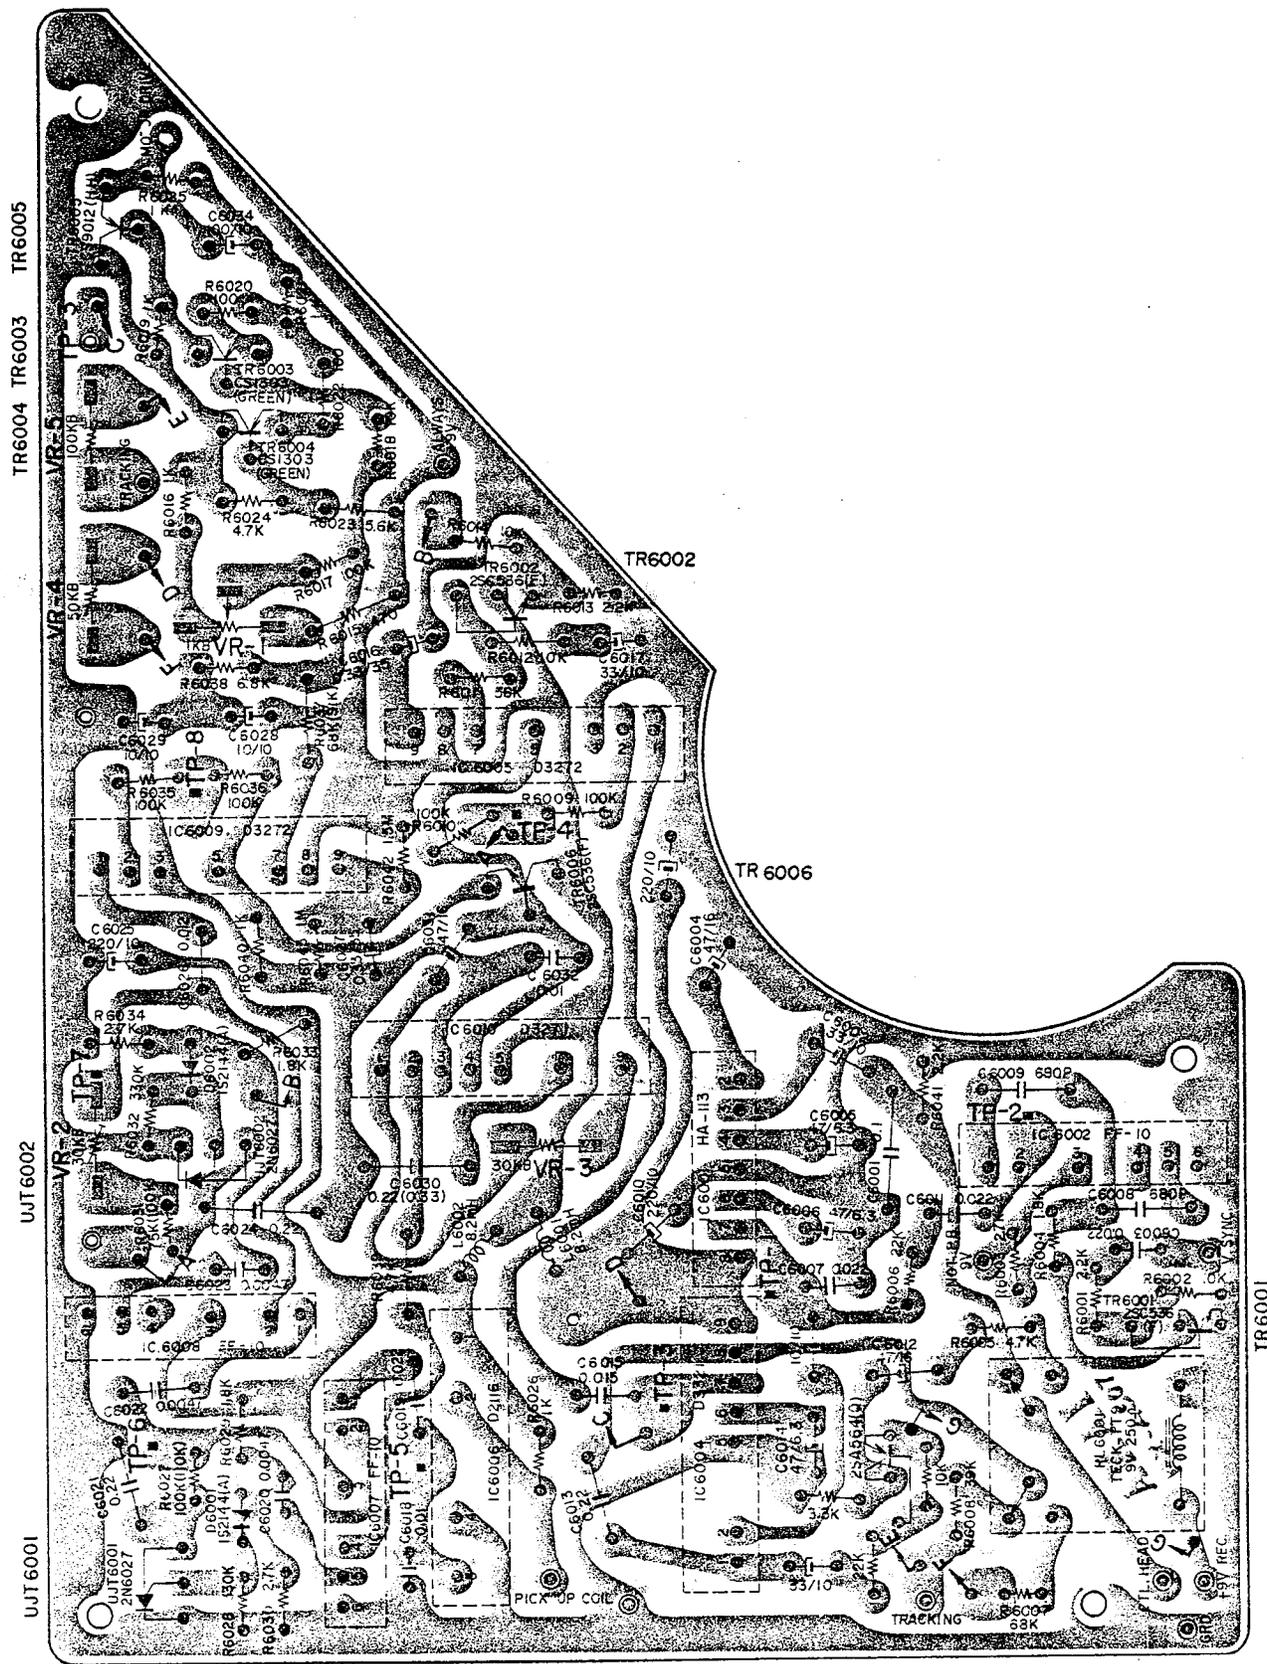

Fig. 3 Servo P.C. Board (PX-A507)
Connect Oscilloscope to the Vertical Blanking Terminal of PC Board (PX-A504) and confirm that the vertical blanking signal pulse width and intervals as shown in Fig. 3 (h) and Fig. 4 (h).
- (b) Connect Oscilloscope to the Vertical Sync. Out Terminal of P.C. Board (PX-A504). Confirm that the vertical sync. appears as shown in Fig. 3 (l) and Fig. 4 (l).